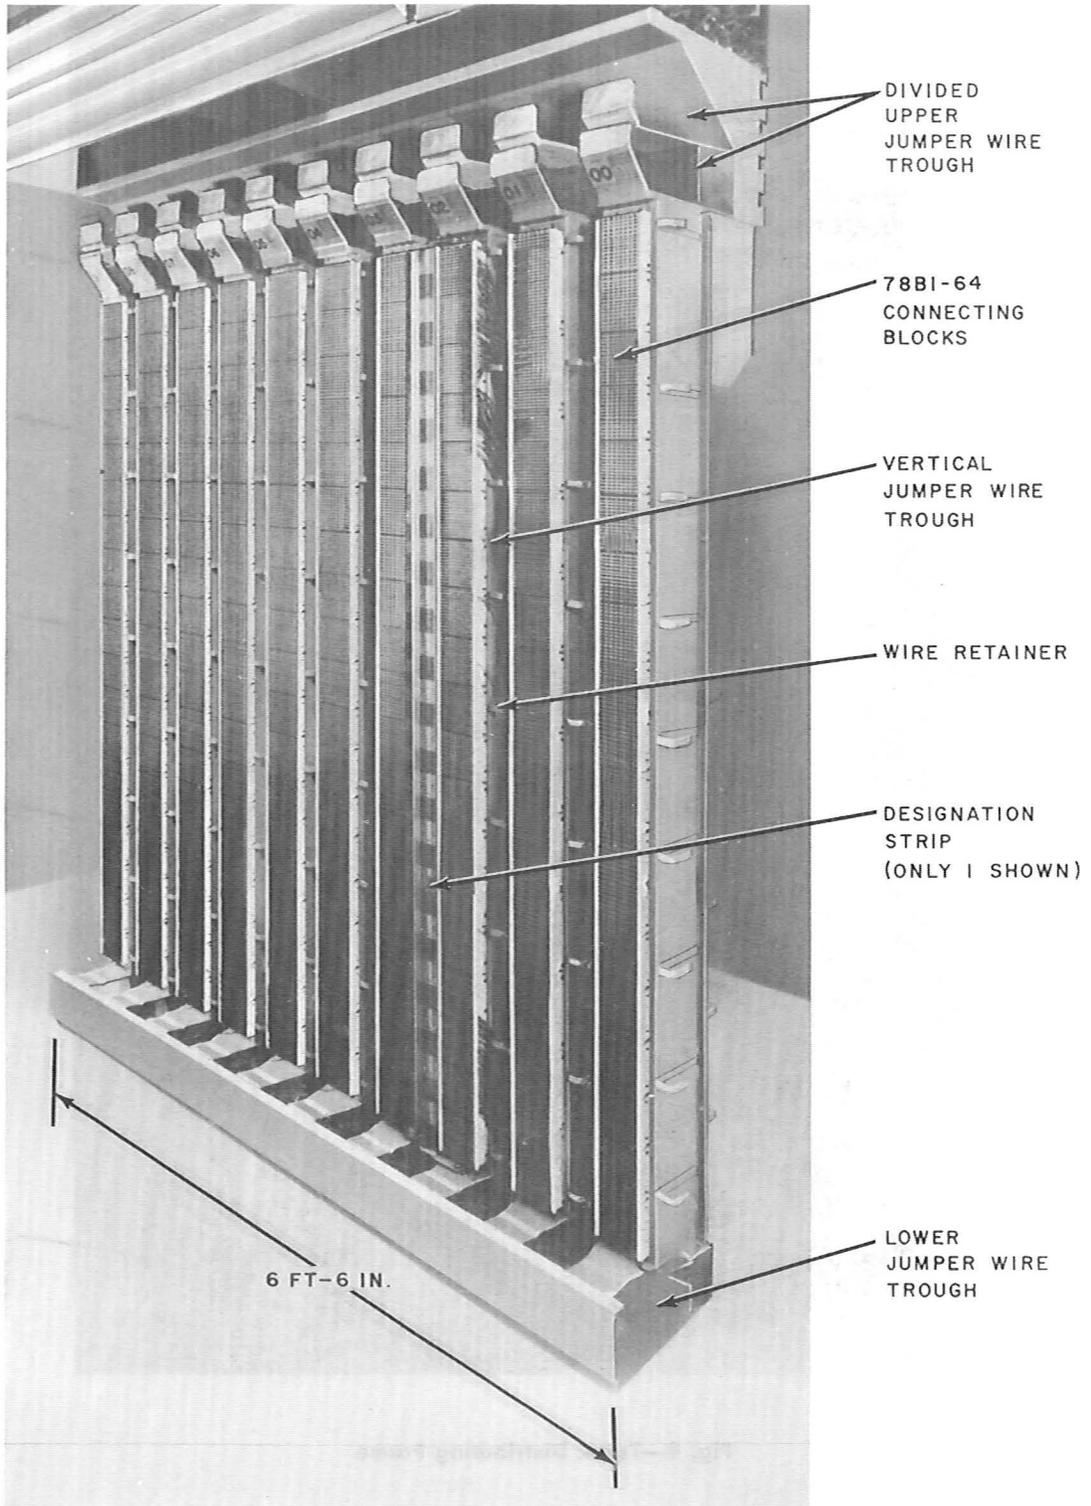
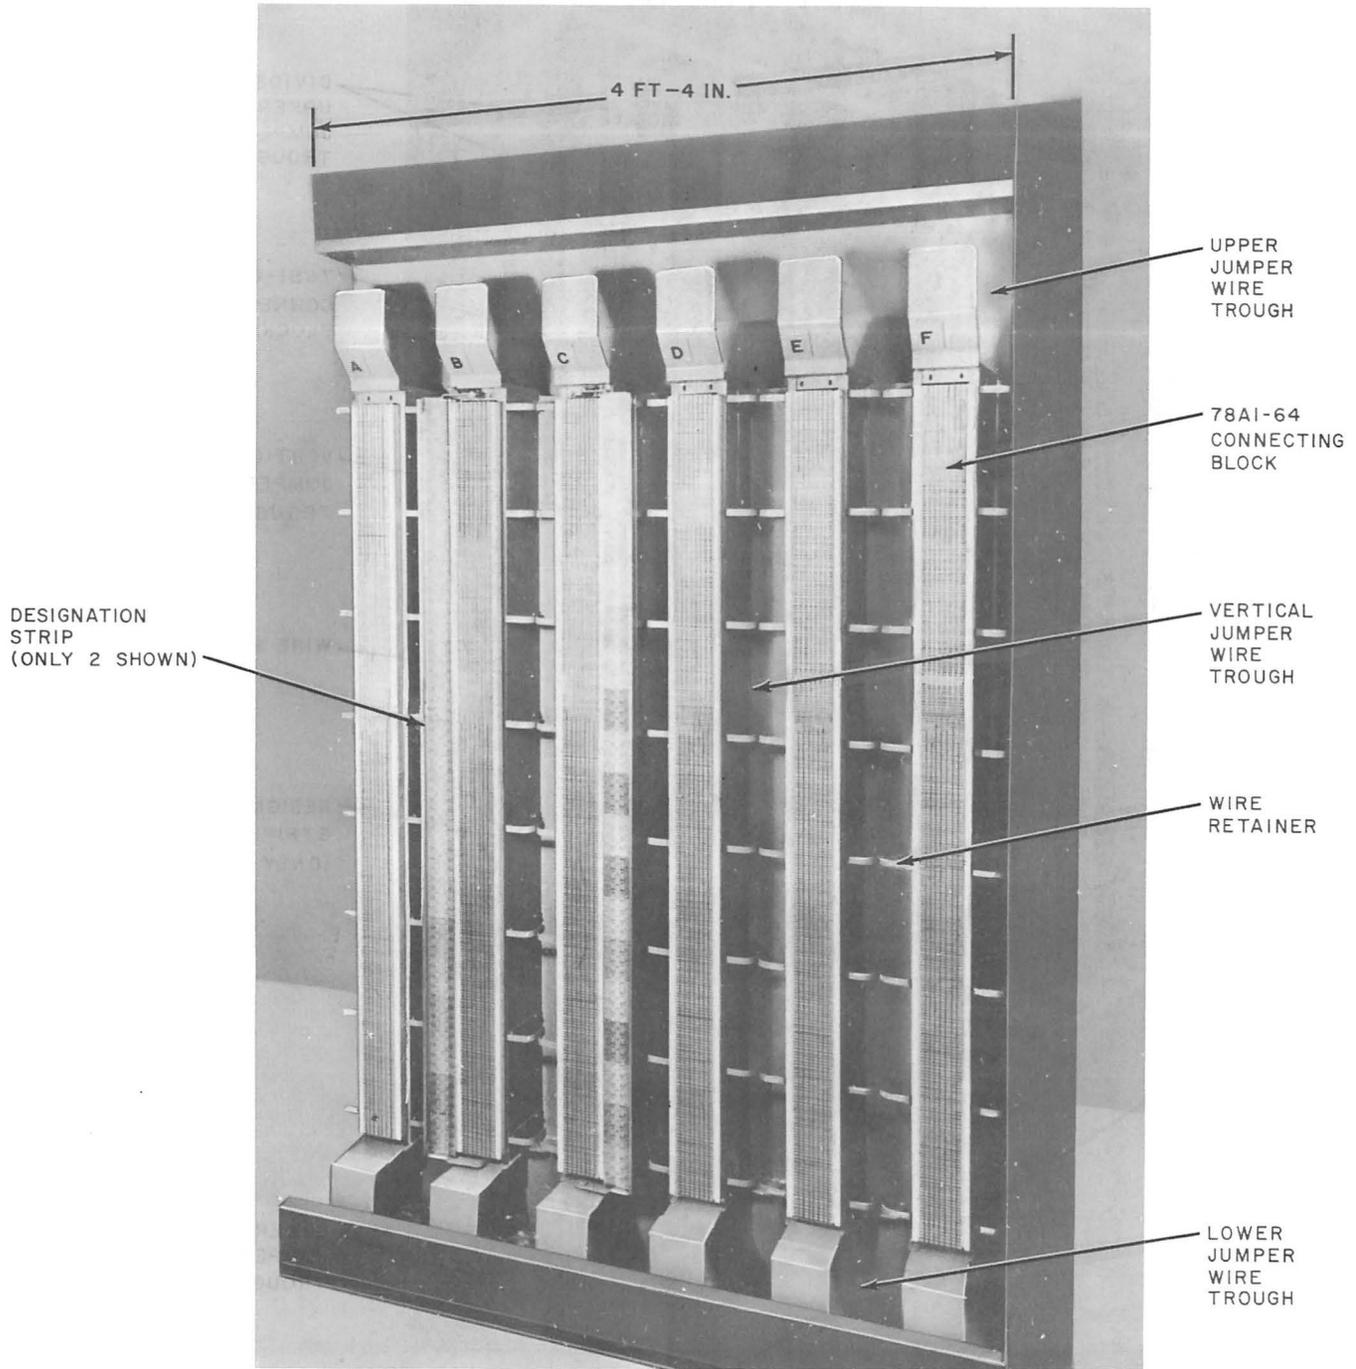

Fig. 3—Main Distributing Frame or Intermediate Distributing Frame
Fig. 4—Trunk Distributing Frame
1.02 This section is reissued to change Fig. 3 and 3.03 to agree with the new distributing frame with a divided upper jumper wire trough.
2.03 The distributing frames are provided in modules, each of which consists of a number of verticals as shown in Fig. 3. The main distributing
frame or intermediate distributing frame consists of ten verticals per module and nineteen 78B1-64 blocks per vertical (Fig. 3). The trunk distributing frame consists of six verticals per module and nineteen 78A1-64 blocks per vertical (Fig. 4).